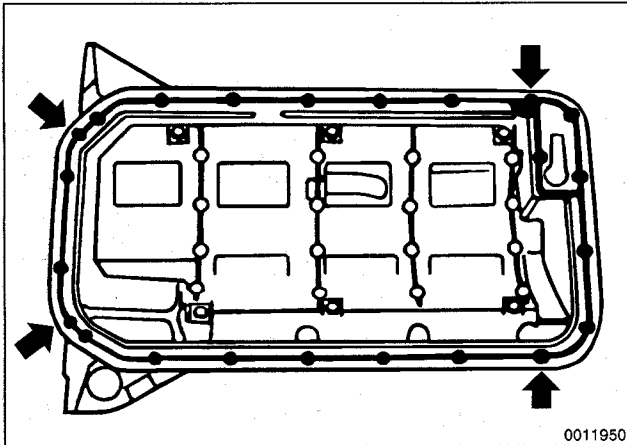

Fig. 5. Joint-mating areas at oil pan gasket where sealer should be applied (arrows). Apply a bead 3 mm wide by 2 mm high.
- Apply a small amount of non-hardening sealer (3-Bond®1209 or equivalent) to oil pan gasket directly below joints for end cover and front timing case cover. See Fig. 5.